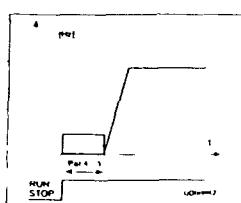

Figure 3.5-25 DC-braking time at start
- >0 = DC-brake is active when the start command is given. This parameter defines the time before the brake is released. After the brake is released the output frequency increases according to the set start function parameter 4.6 and the acceleration on parameters (1.3, 4.1 or 4.2, 4.3). See figure 3.5-25